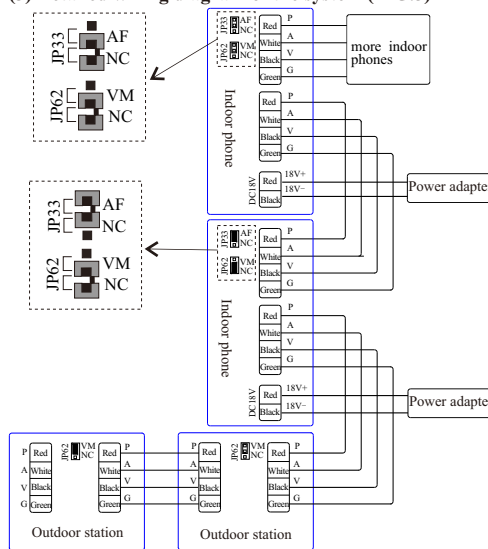

FIG. 5
(3) Detailed wiring diagram of the system (FIG.5)